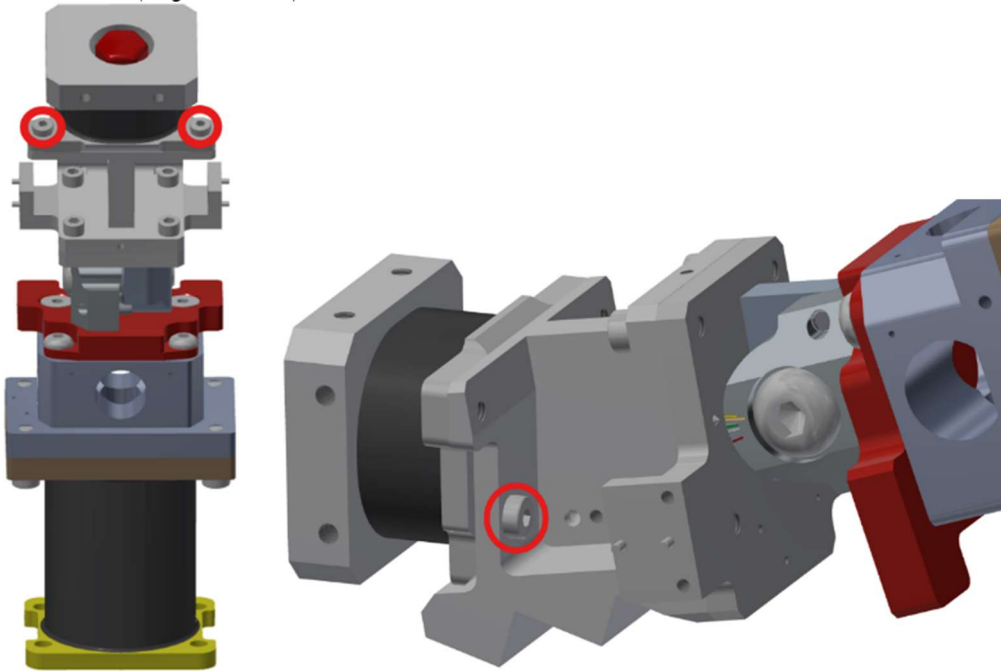

Figure 6-16. Remove the Upper Spine Assembly (474-3240) from the Lower Spine Box Assembly (474-3101-A)
- 6.2.8 Remove the Upper Spine Assembly (474-3240) from the Lower Spine Box Assembly (474-3101-A) by removing four M6 X 1 X 12 LG. LHCS (Figure 6-16).